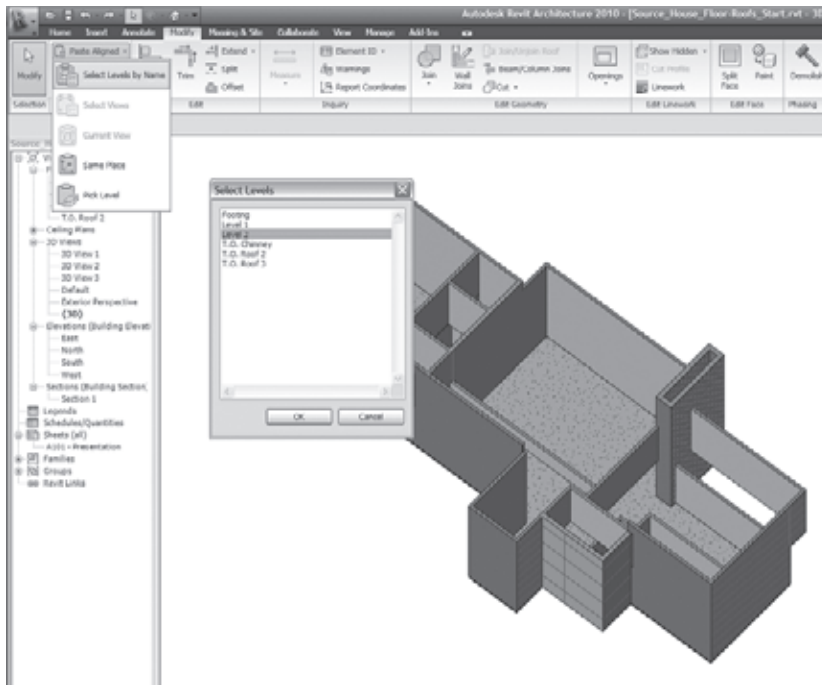

Figure 4.58
2. To paste the floor, choose Paste Aligned from the Clipboard panel on the Modify Floors tab. Choose Levels by Name from the drop-down list and select Level 2, and click OK (see Figure 4.58). The floor is pasted into Level 2.